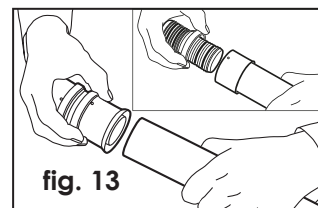

fig. 13
b) Push the metal sleeve over the pipe, push the fitting into the pipe as far as it will go (fig. 13). When the fitting lies against the metal sleeve and the pipe can be seen in the inspection window the connection is ready for pressing (fig. 14).